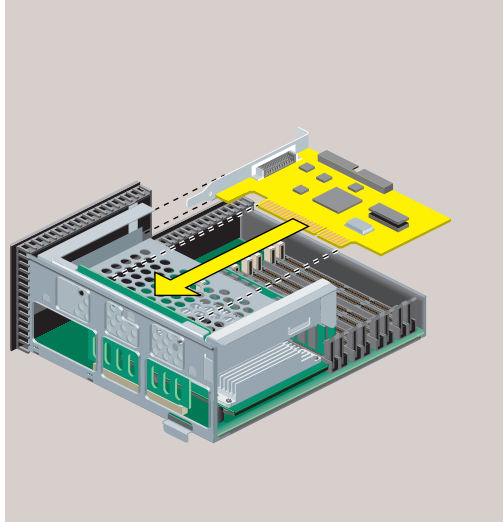

Figure 2-24 Installing the PCI Board on the R10000 Workstation
- Slide the PCI board into the tray and push the PCI connector firmly into the slot. Make sure it is completely seated (Figure 2-24).